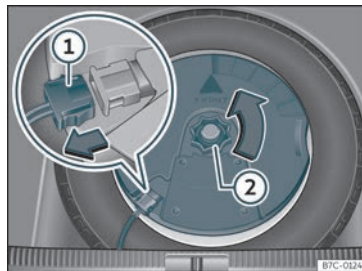

Fig. 214 In the luggage compartment: remove the subwoofer.
- Disconnect the *subwoofer*»» Fig. 214 ① speaker cable.
- Turn the securing wheel in an anti-clockwise direction»» Fig. 214 ②.